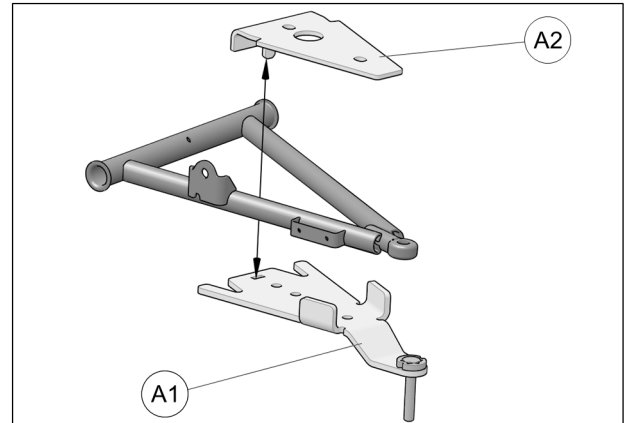

Fig. 21
5. Position bottom part of anchor bracket (A1) under lower suspension arm. Position top part (A2) over suspension arm and insert tenon in mortise cut in bottom part. See Fig. 21